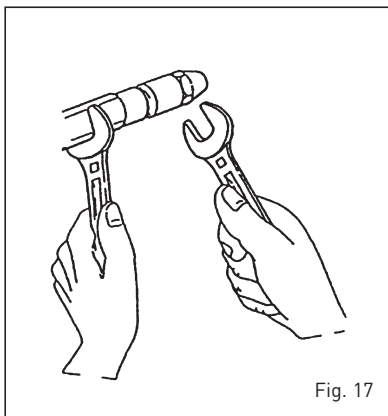

Fig. 17
- Block the spray door using a n°19 spanner and unscrew the nozzle with a n°16 spanner (fig. 17).